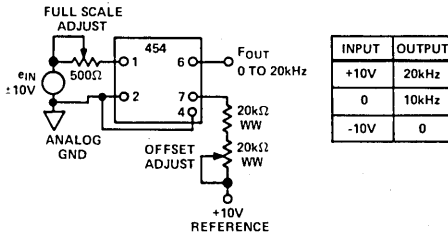

Figure 9. Offsetting Model 454 Output for Bipolar Inputs
**Offsetting Full Scale Frequency; Model 454:** The summing input terminal of model 454 ( $i_{IN}$  terminal) may be used to conveniently offset the output frequency to permit bipolar input signals up to  $\pm 10V$ , as well as improve the dynamic response to low level input signals. As shown in Figure 9, a current is fed through an external resistor from a voltage reference to the current terminal. A low cost precision +10V voltage reference, such as ADI model AD2700, is recommended to retain the stability and accuracy of model 454.